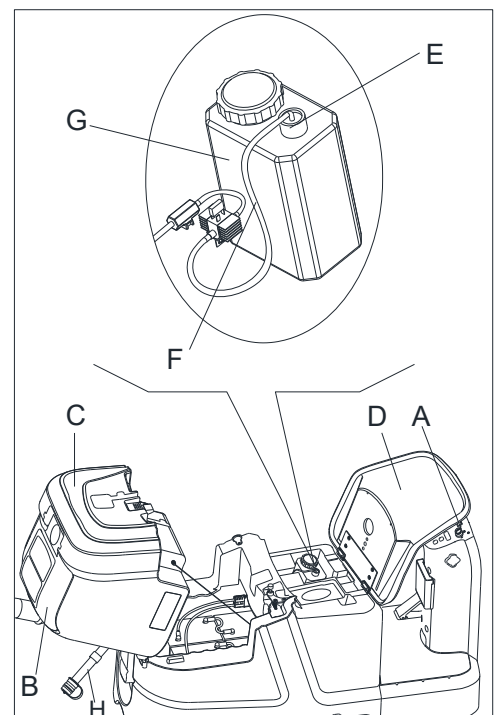

Figure 26
Clean the detergent tank (E, Figure 26) as shown below:
2. Turn the ignition key (A) to "0".
3. Open the cover (B) and check that the recovery water tank (C) is empty; if necessary empty it with the drain hose (H, Figure 26). Close the cover (B).
4. Carefully lift the tank (C).
5. Unscrew the plug (E) and disconnect the hose (F) from the tank (G).
8. Install the tank (G) and connect the hose (F).